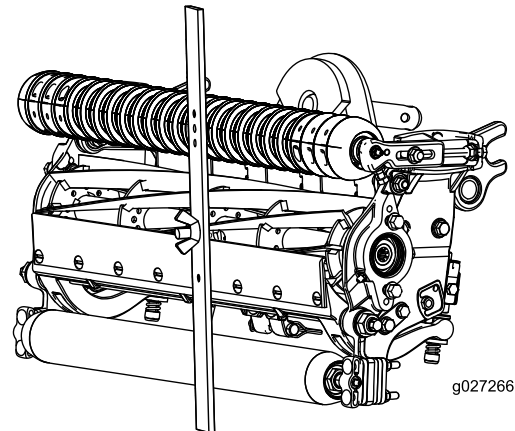

Figure 17
3. Hook the screw head on the cutting edge of the bedknife and rest the rear end of the bar on the rear roller (Figure 17).
4. Rotate the adjusting screw until the front roller contacts the gauge bar (Figure 17). Adjust both ends of roller until the entire roller is parallel to the bedknife.